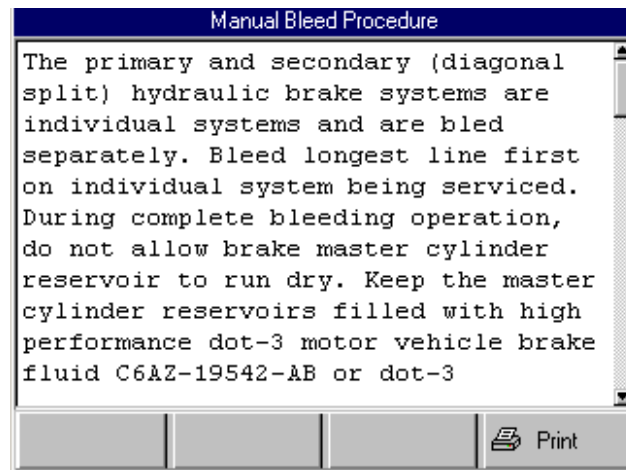
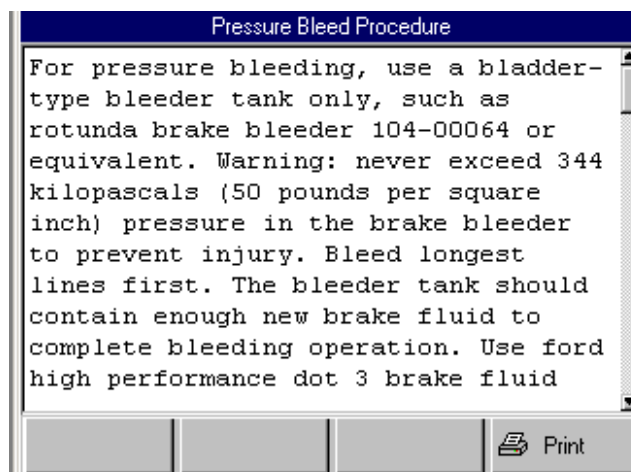

Figure 7.13: Manual Bleed Procedure Screen
Figure 7.14: Pressure Bleed Procedure Screen
- 3 Select either **Manual Bleed** or **Pressure Bleed** and press the **ENTER** key. This displays either the Manual Bleed Procedure screen (see figure 7.13) or the Pressure Bleed Procedure screen (see figure 7.14).